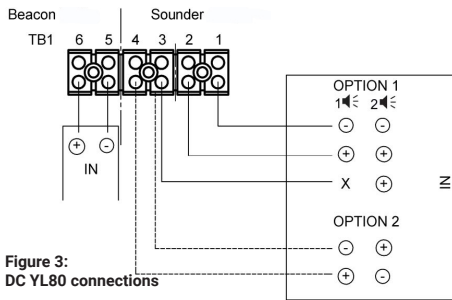
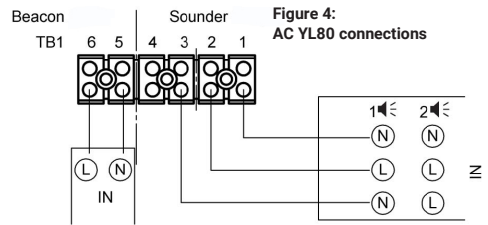

Figure 3: DC YL80 connections
Figure 4: AC YL80 connections
Connections for the YL80 units are made via a 6 way Terminal Block mounted in the base of the unit as shown in the Figure 3 (DC) & Figure 4 (AC) diagrams below. Using connections shown, it is possible to independantly control both Sounder and Beacon sections.